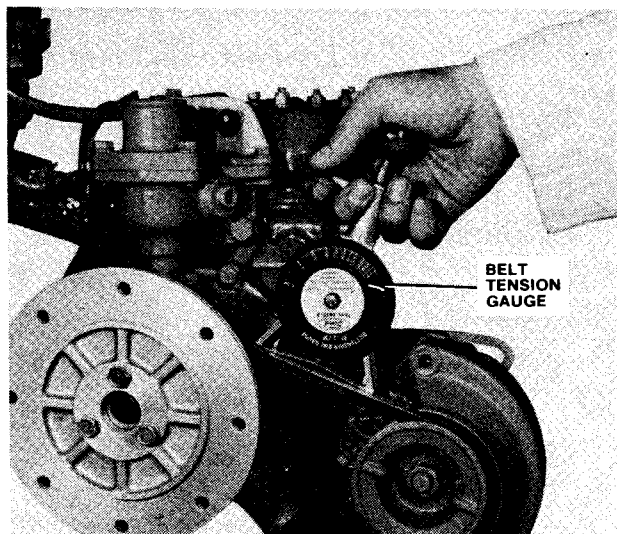

FIG. 5 Checking Drive Belt Tension
1. Install the belt tension gauge on the drive belt and check the tension (Fig. 5).